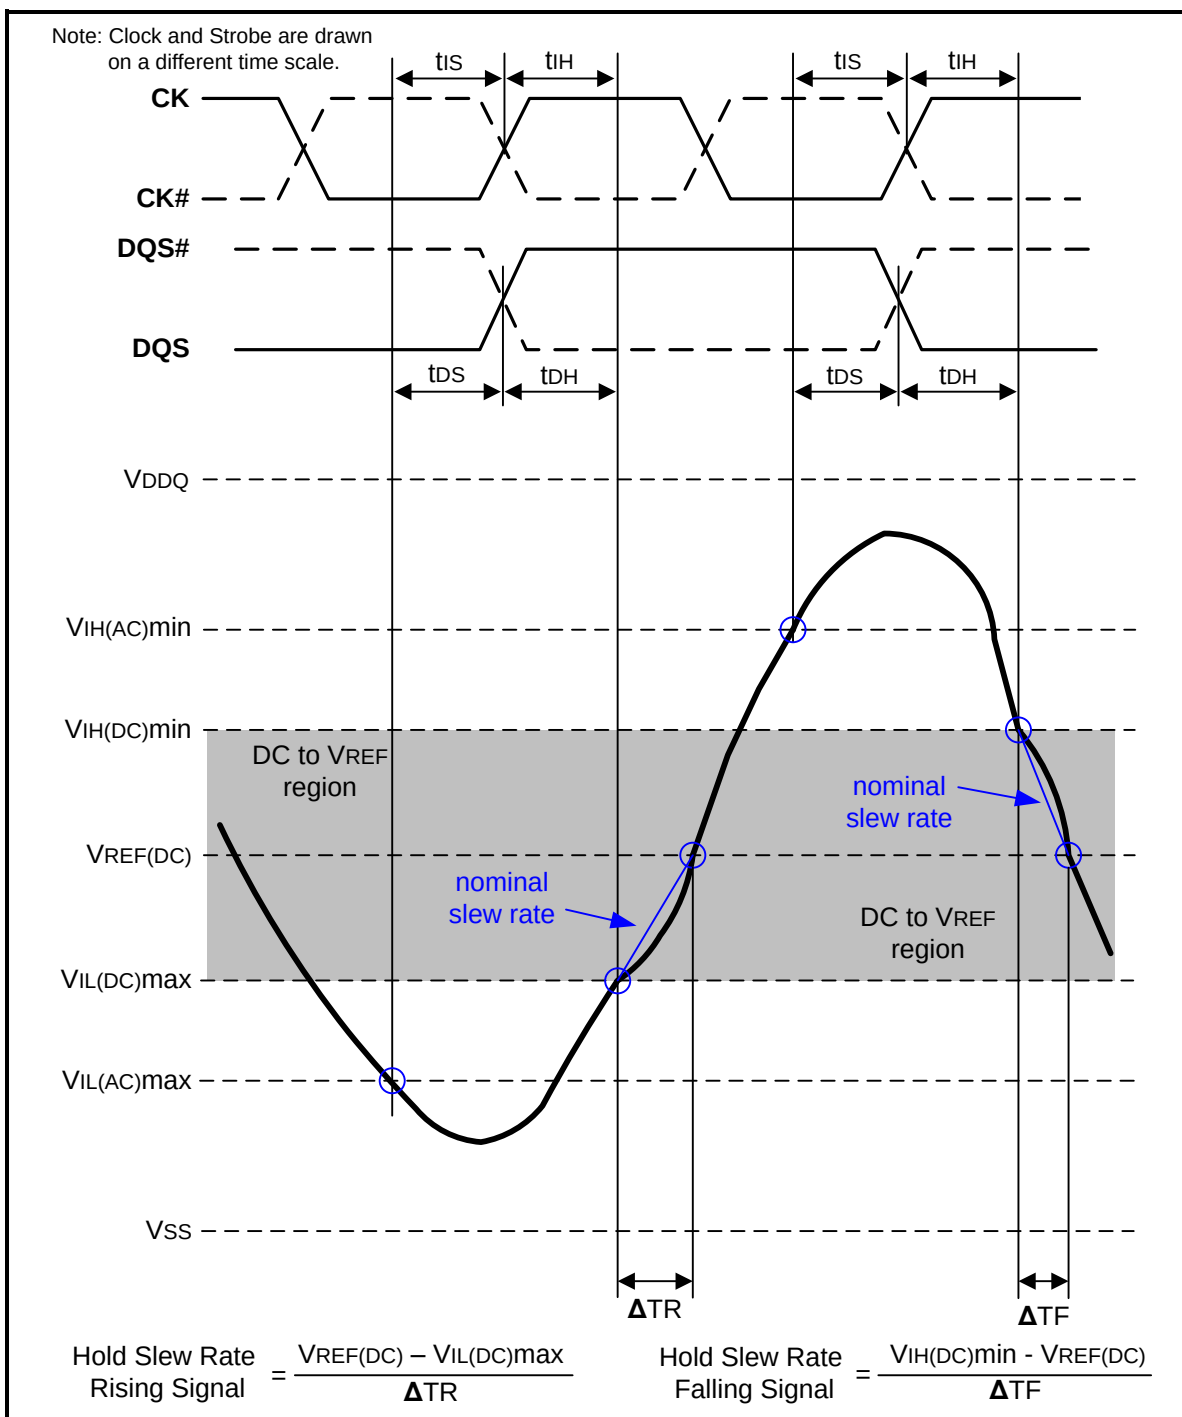

Figure 108 – Illustration of nominal slew rate for hold time t_{DH} (for DQ with respect to strobe) and t_{IH} (for ADD/CMD with respect to clock)
Hold (t_{IH}) nominal slew rate for a rising signal is defined as the slew rate between the last crossing of $V_{IL}(\text{DC})_{\text{max}}$ and the first crossing of $V_{REF}(\text{DC})$. Hold (t_{IH}) nominal slew rate for a falling signal is defined as the slew rate between the last crossing of $V_{IH}(\text{DC})_{\text{min}}$ and the first crossing of $V_{REF}(\text{DC})$. If the actual signal is always later than the nominal slew rate line between shaded 'DC to VREF(DC) region', use nominal slew rate for derating value (see Figure 108). If the actual signal is earlier than the nominal slew rate line anywhere between shaded 'DC to VREF(DC) region', the slew rate of a tangent line to the actual signal from the DC level to $V_{REF}(\text{DC})$ level is used for derating value (see Figure 110).
Hold (tDH) nominal slew rate for a rising signal is defined as the slew rate between the last crossing of VIL(DC)max and the first crossing of VREF(DC). Hold (tDH) nominal slew rate for a falling signal is defined as the slew rate between the last crossing of VIH(DC)min and the first crossing of VREF(DC) (see Figure 108). If the actual signal is always later than the nominal slew rate line between shaded 'DC level to VREF(DC) region', use nominal slew rate for derating value. If the actual signal is earlier than the nominal slew rate line anywhere between shaded 'DC to VREF(DC) region', the slew rate of a tangent line to the actual signal from the DC level to VREF(DC) level is used for derating value (see Figure 110).